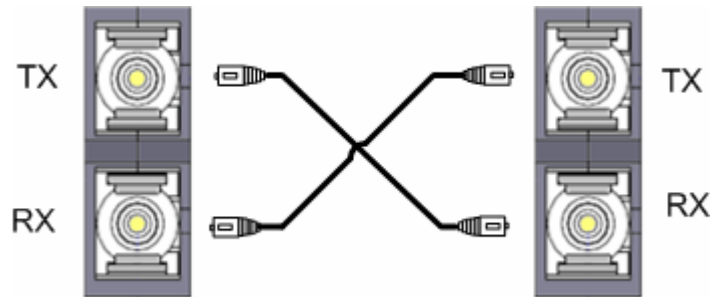

Figure-4
2. **Connecting the Fiber Port:** Connect the fiber port to fiber link partner by proper fiber cable as shown in the Figure-4. Ensure that both of connected fiber ports are the same type and use exactly optical fiber cable.